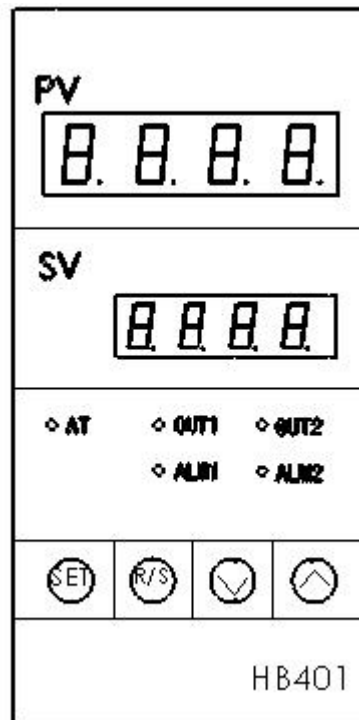

Fig. 6 Intelligent temperature controller
3.1 Structural diagram of the main unit (Fig. 5 and Fig. 6).
The installation procedure of the packing seal ring is as follows: Fig. 6, first install the O-ring 4 on the stuffing box 3 and a single packing box 5, then put them on the piston rod 19, fix the packing box 5 to keep it on the outside of the stuffing box, and then put the packing seal 2 (see Fig. 7) on the piston rod and push it into the packing box, then press the O-ring into the gap between the packing box and the packing seal twice, then press them together into the stuffing box, and then proceed to the next packing box installation.